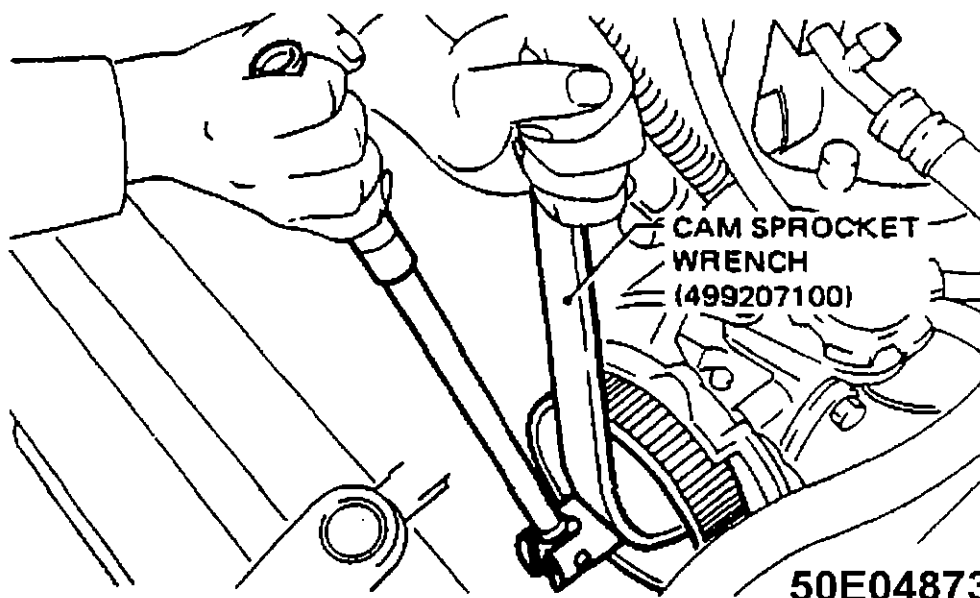
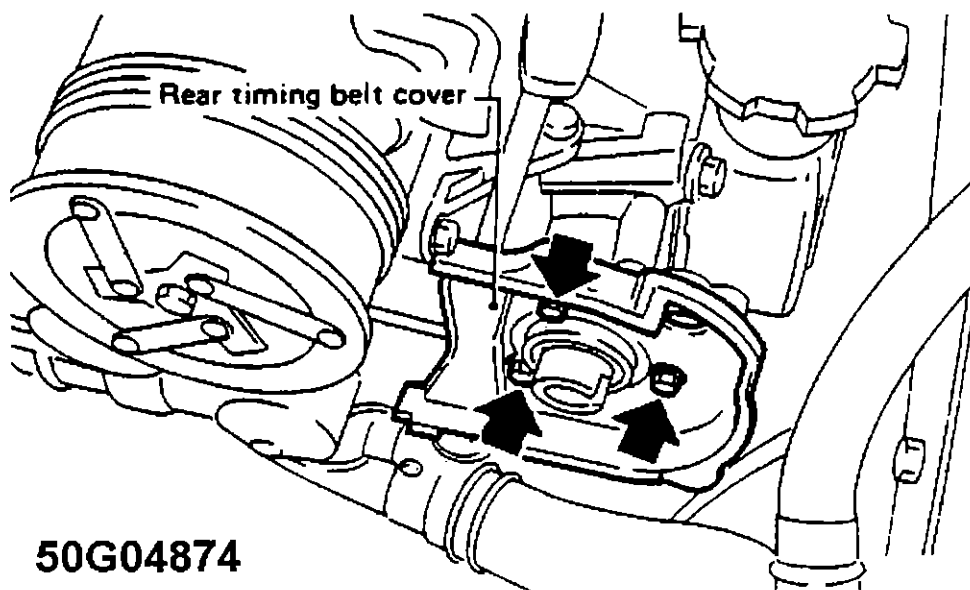

Fig. 13: Removing Left Camshaft Pulley
Fig. 14: Removing Left Side Rear Timing Belt Cover
2) Remove "V" belts and timing belt. See TIMING BELT R & I in this article. Remove belt tensioner adjuster. Remove camshaft angle sensor. Remove water pump. Remove oil pump assembly and gasket. Remove left camshaft pulley. See Fig. 13. Remove left side rear timing belt cover. See Fig. 14.